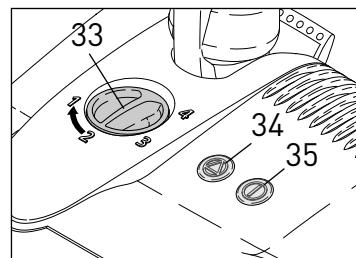

Figure 11
B. To clean delicate or hard floor surfaces with straight suction only, the power head is equipped with an on/off switch (35, figure 11). When this switch is used to turn off the brush roller, the green light will change to yellow, indicating to the user that the brush roller is not turning. Pushing the button again will turn on the brush roller and the light will turn green.
NOTE: The brush roller is off and stopped only when the machine is in an upright position and the handle is completely locked in place. If you have the machine at an angle, the brush roller will spin. Leaving the machine in a stationary position for an extended period of time while the brush roller is spinning may cause damage to your floor or carpet. You may also switch off the brush roller by pressing the on/off switch (35, figure 11) on the top of the power head.
Brush Obstruction Light & Auto Shut Off - Figure 11
The Brush Height Adjustment Feature - Figure 11
Indicator Lights - Figure 11
(35, figure 11)
(34, figure 11)